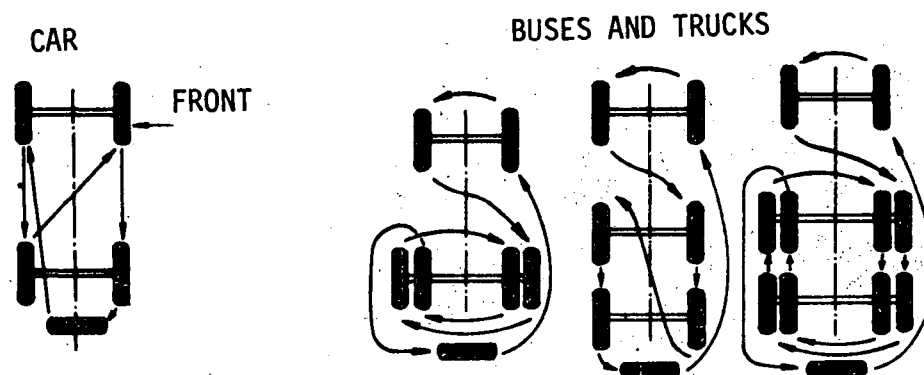

Fig. 6
b) Interchange the tyre positions according to the manufacturer's recommendations (fig. 6).